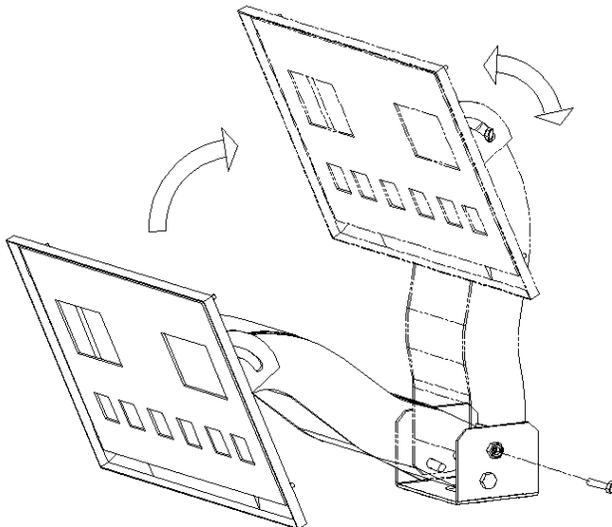

FIGURE 4
2. Mount the **display** on the bracket, aligning the holes (*Fig. 4*).